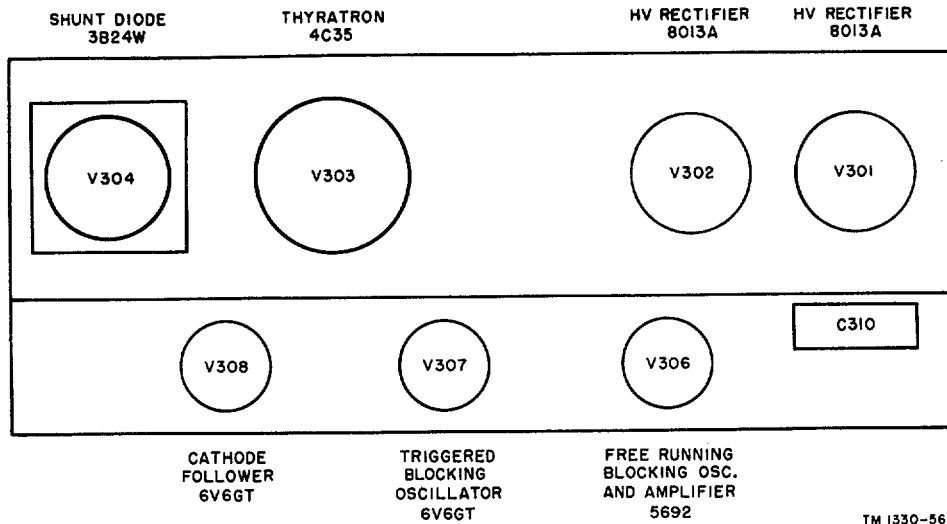

Figure 84. Transmitter tube location diagram
- (3) Figure 84, transmitter tube location diagram.
- (1) All the tubes in the transmitter (fig. 84) (except the magnetron) are located back of the hinged panel and are enclosed in the transmitter, or